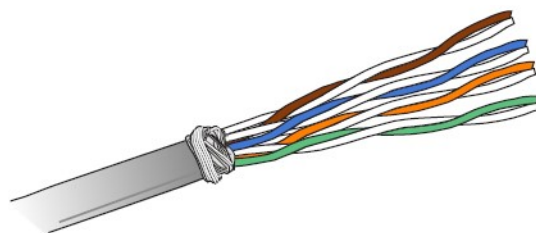

Figure 7
5. Remove the foil shields from each pair & arrange it as shown below & in Figure 7.